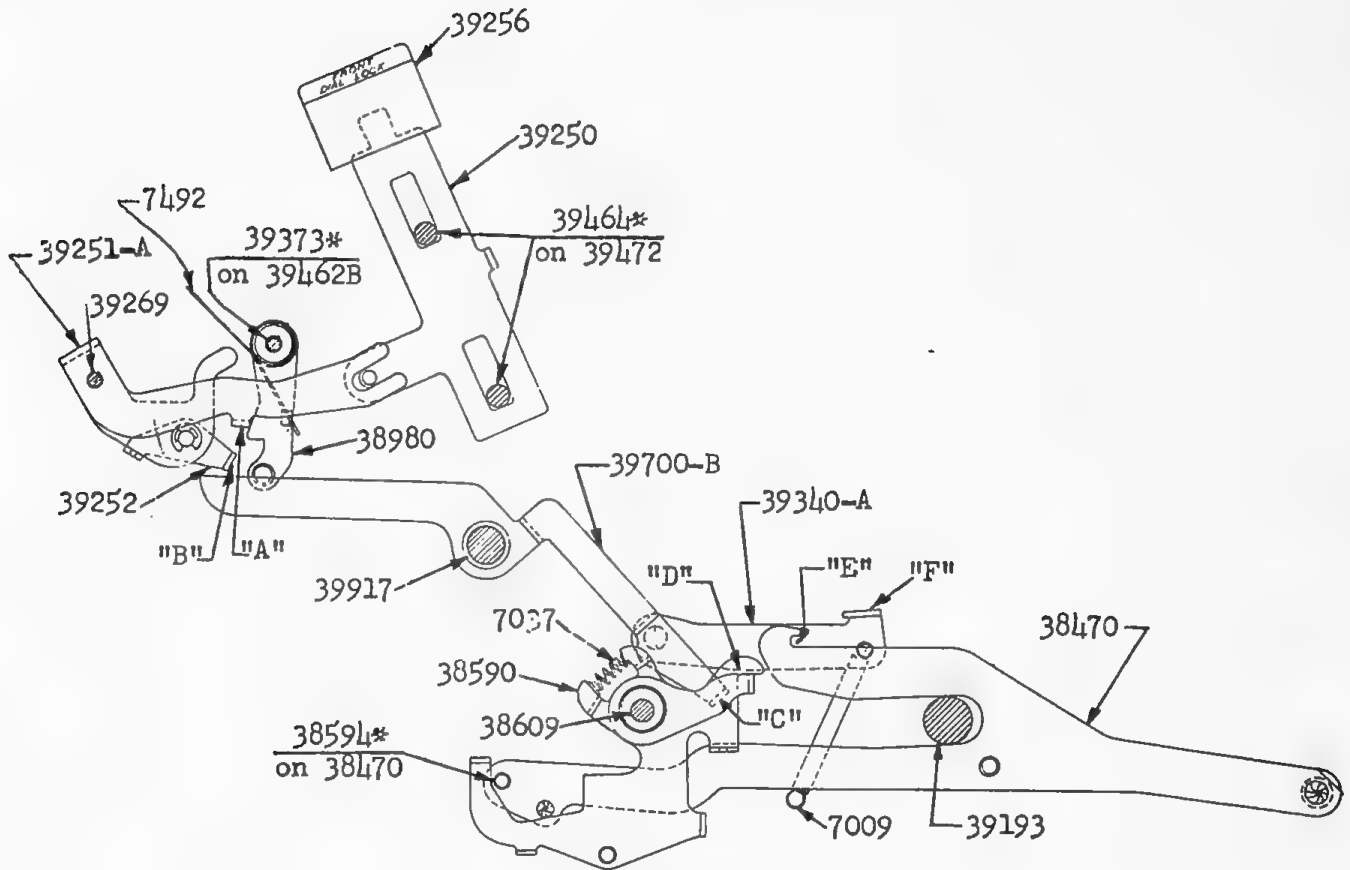

FIG. 62
1. (Fig. 62). If a figure in the Front Dials is to be maintained as a constant multiplier the Front Dial Lock Key may be depressed before or during multiplication at any time prior to
2. (Fig. 62). The Live Point-39252 is provided as a yield in the event the Front Dial Lock Key is depressed during the Last Restore Cycle at a time when ear "F" on 39397 has already been engaged by hook "E" on 38470.
This rocks the Front Dial Clear Latch-39185A clockwise through Link-39190A, allowing the ear "B" on the Front Dial Clear hatchet-39120A to rock clockwise under tension of its Spring-7044. Connected to the upper end of 39120A is the Link-39174A which is now moved rearward so that its surface "C" rocks the Bail Latch-38980 through Stud-38979*, thus releasing the Bail-39251A and the Front Dial Lock Key. (See Fig. 62, Page 1287).